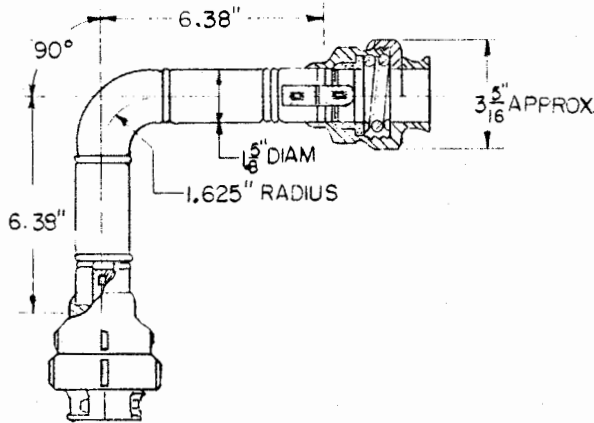

Figure 11-69. 90 Degree Elbow Coupling,
- c. 90-degree elbow coupling (see Figure 11-69).
(2) ELBOW COUPLINGS. - These couplings are shown in Figures 11-69 and 11-70 and must be used wherever turns or bends are made. (The straight sections of transmission cannot be bent.)